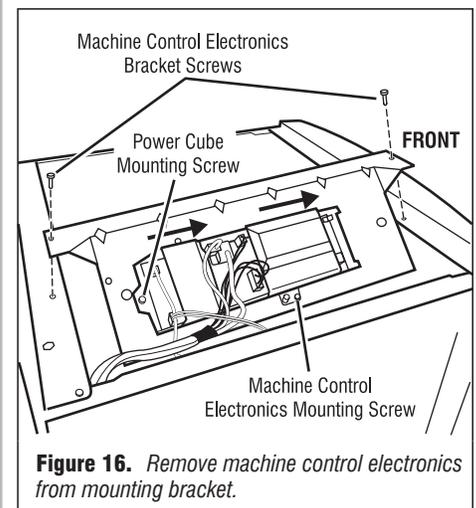
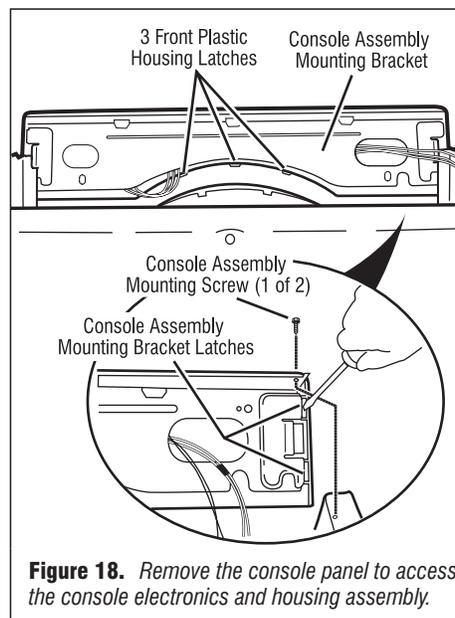

Figure 16. Remove machine control electronics from mounting bracket.
Figure 18. Remove the console panel to access the console electronics and housing assembly.
2. Slide the bracket over the top of the drum to access the machine control electronics connectors and mounting screw. See figure 16.
4. Remove the screw holding the machine control electronics assembly to the mounting bracket. See figure 16.
3. Remove the screw holding the UI power cube to the mounting bracket. See figure 16, page 9.
2. Remove the screw that fastens the assembly to the machine control mounting bracket (figure 16, page 9), and the two screws that fasten the console assembly to the machine (figure 18).
3. Slide the console up and off of the machine, gently unlatching the front three plastic housing latches from the front door trim section. See figures 18 and 19.
4. The console mounting bracket is fastened to the console front panel with two latches at both sides of the console assembly. Unlatch the bracket gently with a screwdriver while pulling the mounting bracket assembly out. See figure 18.